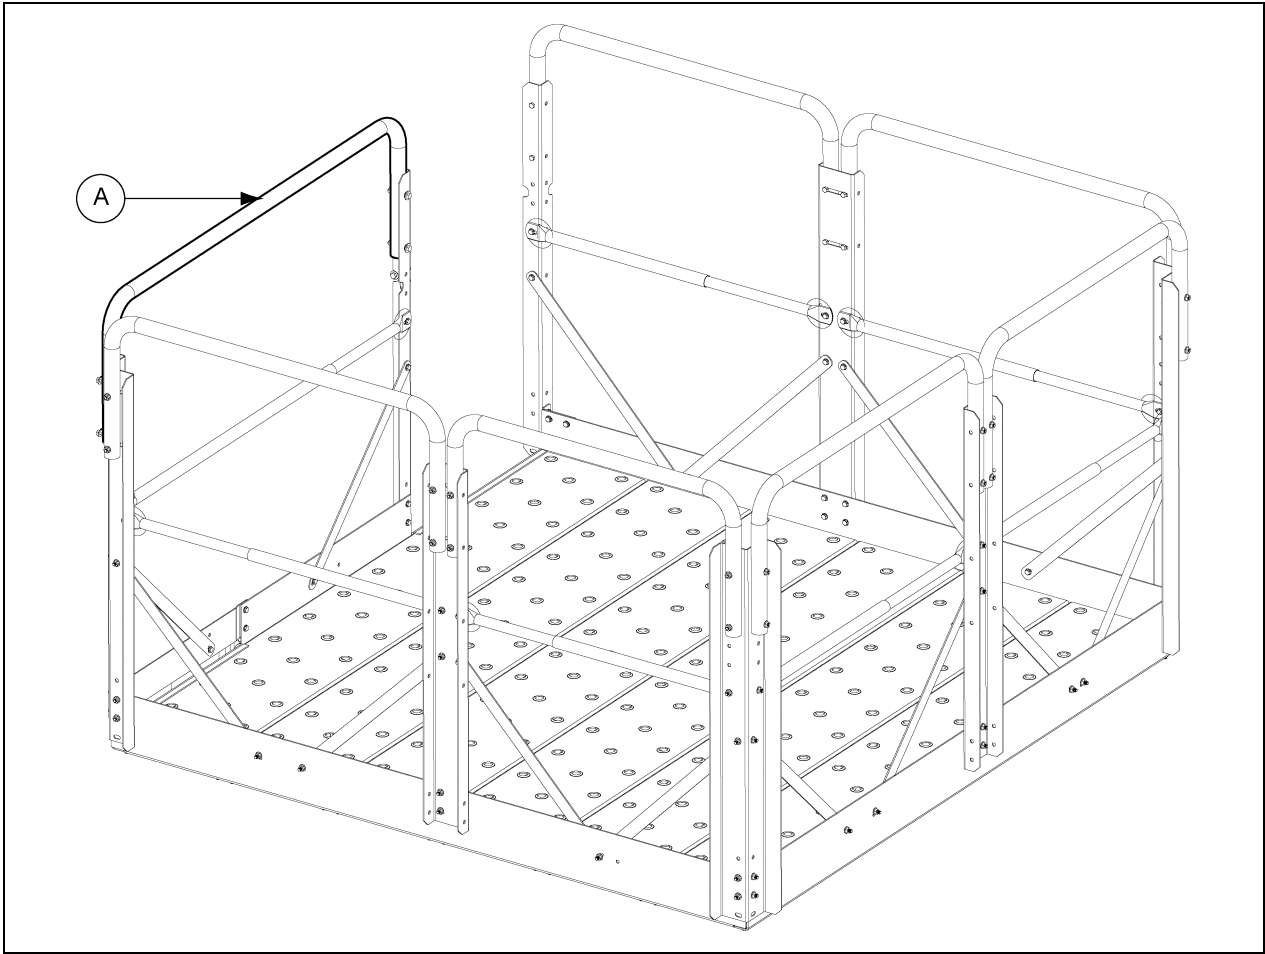

Figure 130
Attach drive handrail (HP1648HRD) (A) from “W” corner post to safety gate side post (HP1648HP) using 5/16" bolt (S-7877) (J) and 5/16" flange nut (S-3611) (K). (See Figure 130.)